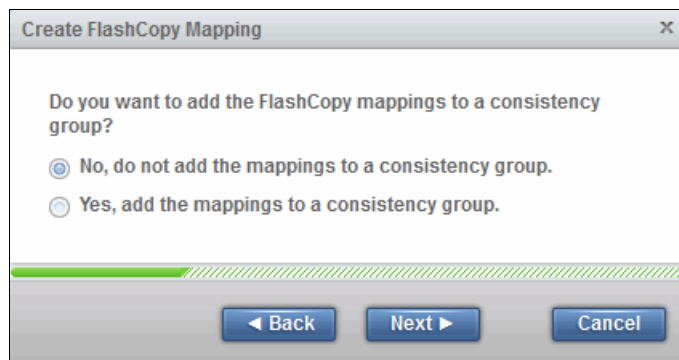

Figure 10-19 Add FlashCopy mapping to a consistency group
5. In the next step, you can add your FlashCopy mapping to a consistency group, as shown in Figure 10-19. If the consistency group is not ready, the FlashCopy mapping can be added to the consistency group afterward. Click **Next** to continue.